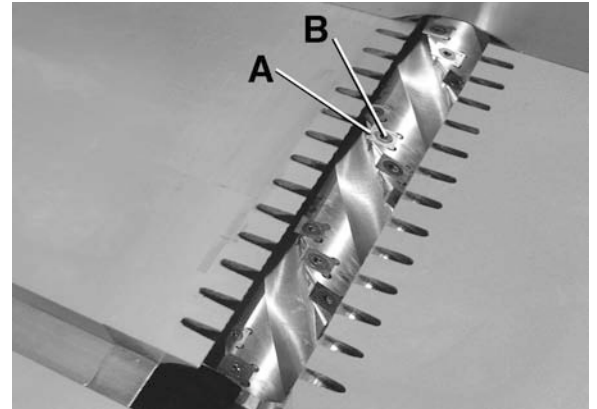

FIGURE 19
A Torx bit is supplied with this jointer to remove or adjust the position of the carbide cutter inserts secured in the spiral cutterhead. The spiral cutterhead is equipped with 52 indexable carbide cutter inserts (A) Fig.19, each can be rotated to reveal one of its four cutting edges. Once a cutter insert becomes dull or damaged, simply rotate it 90° to reveal a fresh cutting edge. In addition, each cutter insert has a reference mark on one corner. This reference mark can be used as an indicator of which edges are used and which are new. Once the reference mark revolves back around to its starting position, the cutter insert should be replaced.
4. Note the position of the reference mark on the cutter insert. Using the Torx bit, remove the cutter insert by turning the torx head screw (B) Fig.19 counterclockwise. The cutter insert and the seat should be as clean as possible. This will prevent breakage of inserts and ensure proper insert alignment.